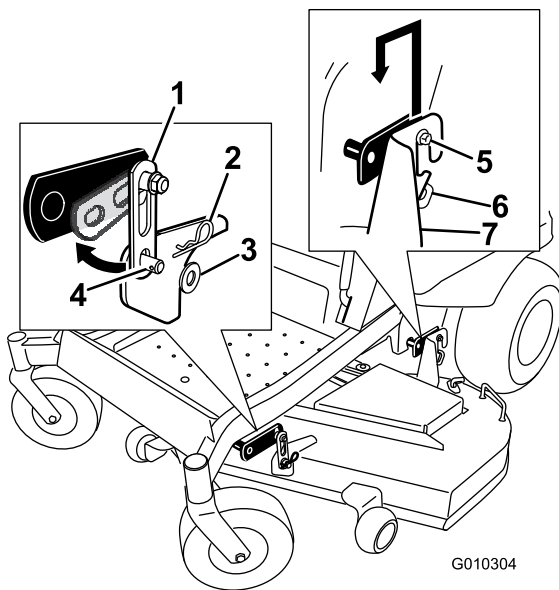

Figure 69
2. Remove the hardware from the front deck hangers on both sides of the deck (Figure 69).
3. Carefully lift the deck off the rear hanger bolts and lower the front of the mower deck to the ground (Figure 69).
5. Lift the rear of the mower deck and guide the hanger brackets over the rear hanger bolts (Figure 69).